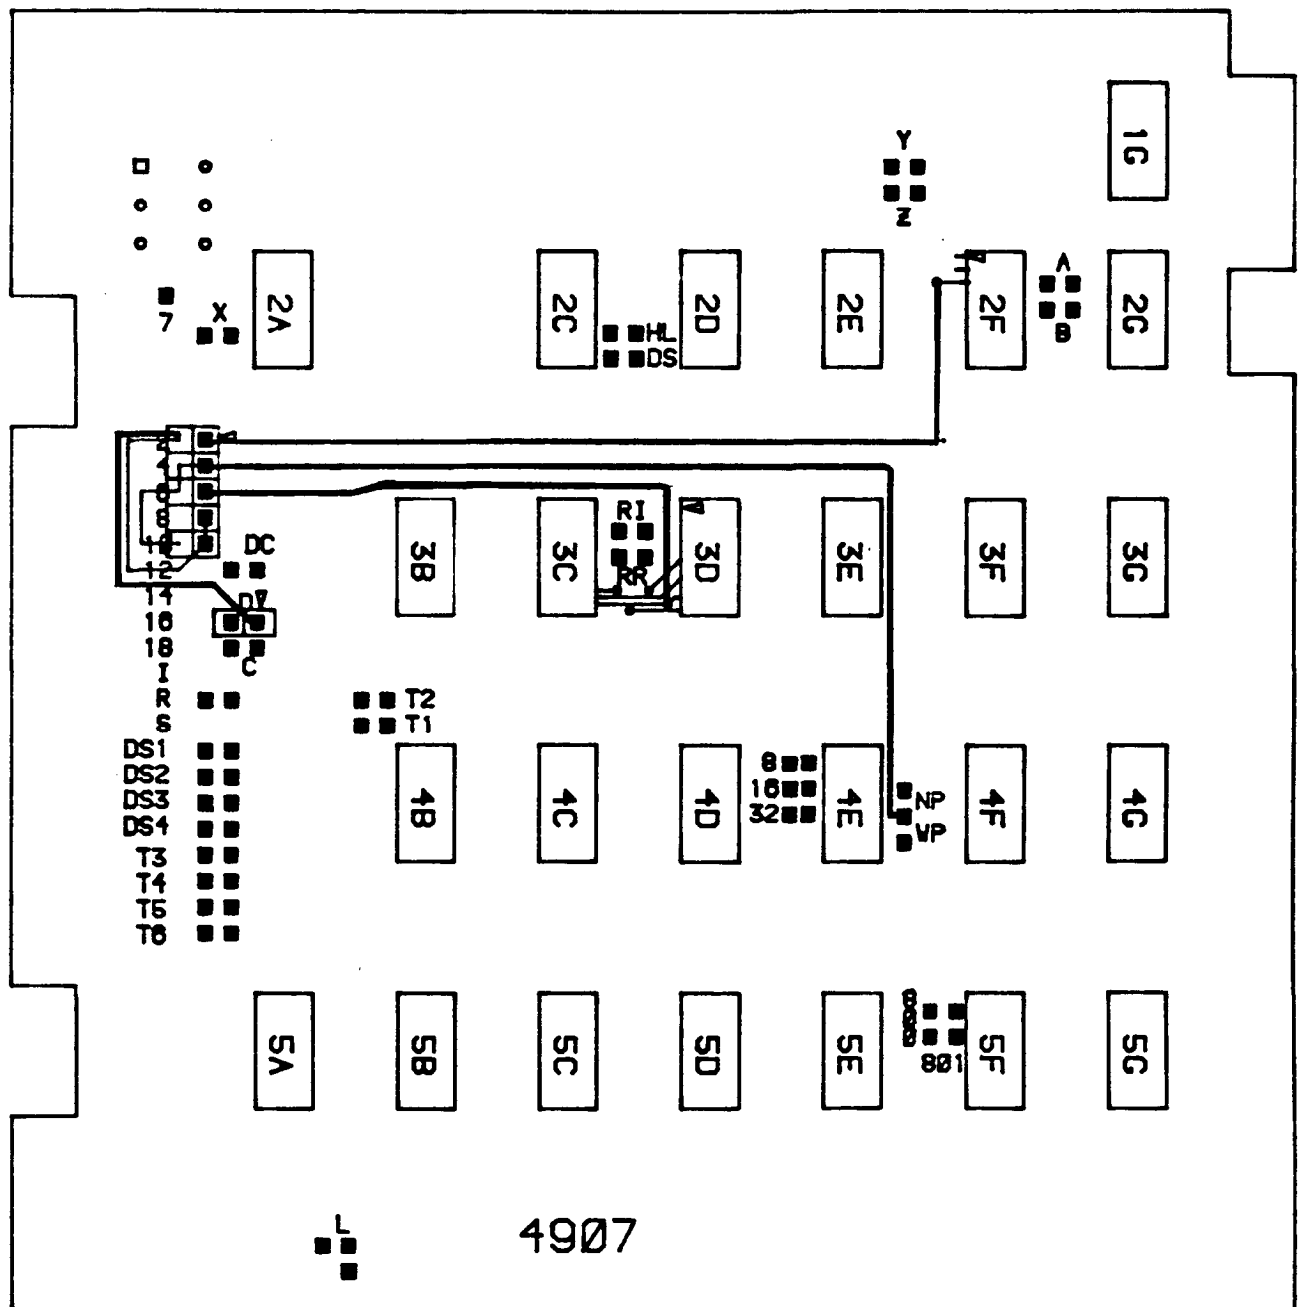

Figure 4.
Refer to Figure 4 for locations of the wire to be attached in the following procedures.
- 5) Solder the 9-3 wire to the through hole located between ICs 3C and 3D (see Figure 4).